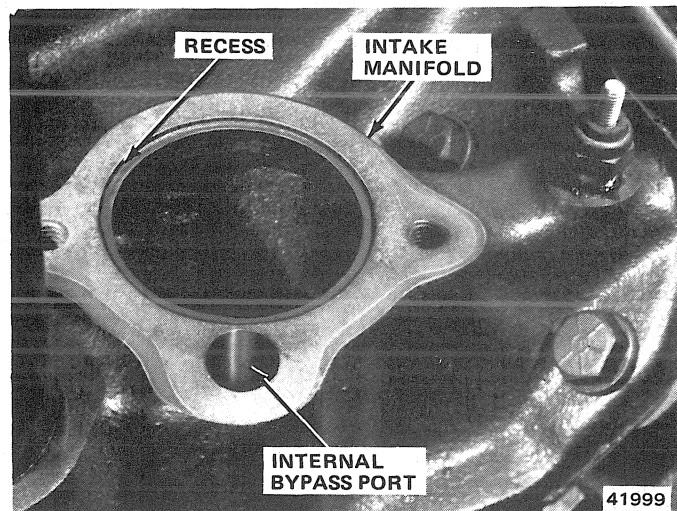

Fig. 1C-7 Thermostat Recess—Eight-Cylinder Engine
(2) Insert 0.003-inch (0.076-mm) feeler gauge, with wire or string attached, between valve and seat (fig. 1C-8).